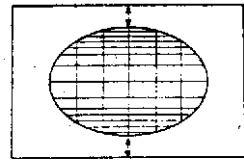

Fig. 10
- Adjust the S-CORRECTION to obtain a balance between upper, lower and center (fig. 10).